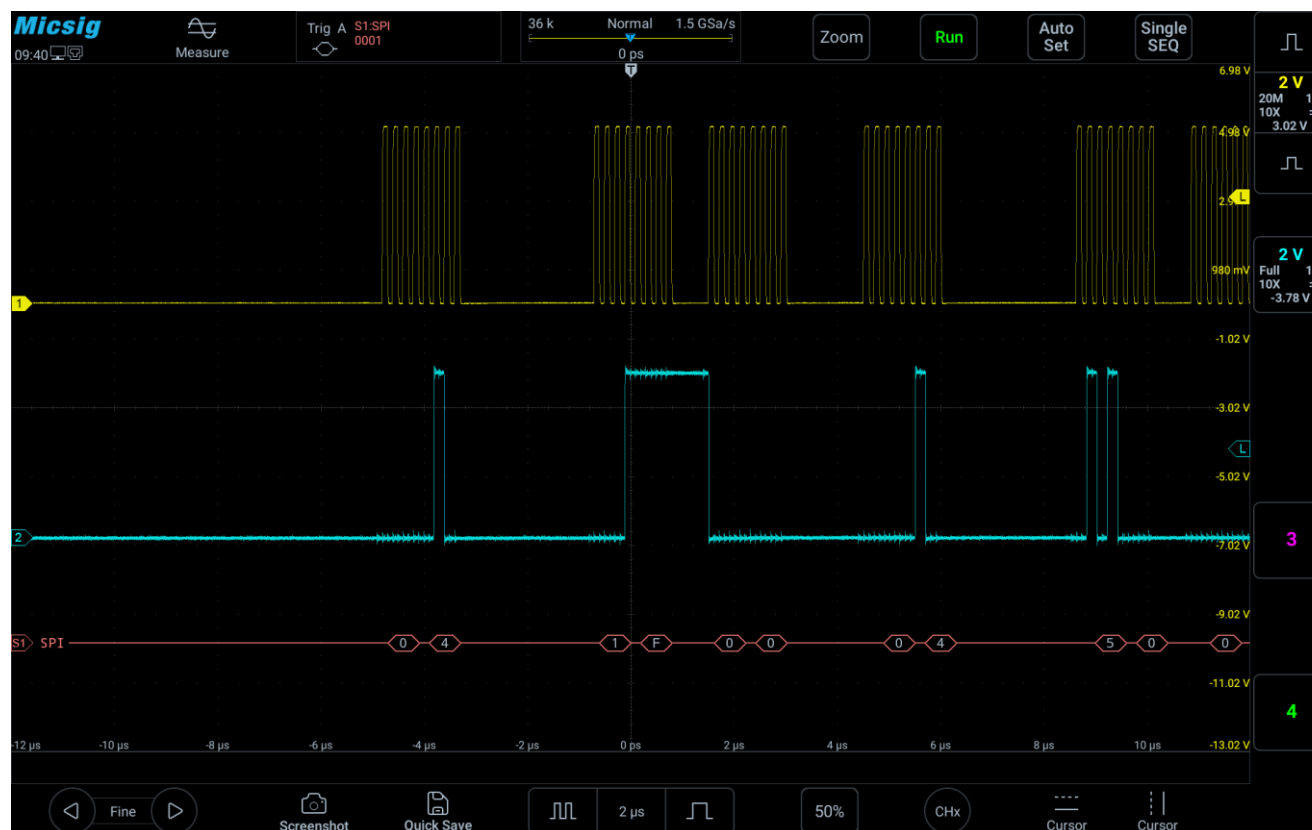

Figure 11-20 SPI bus decode interface
- (1) Tap S1 to open the decode channel, and click S1 again to open the bus configuration menu;
- (2) Select the bus type as “SPI”, click clock as “Ch1” rising edge, the data is “Ch2” high level, and the data word length is “4bit”;
- (3) Open the trigger setting menu, click data on the touch screen, and use the virtual soft keyboard to set the data to be matched as “0001”;
- (4) Adjust the threshold levels of two channels according to signal amplitude; the SPI trigger graphic interface is shown in Figure 11-20: